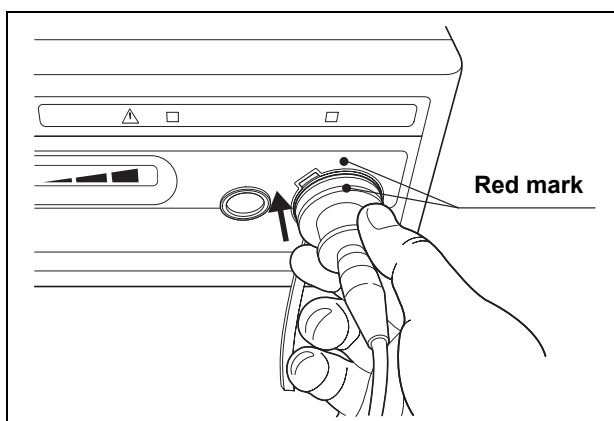

Figure 4.20
2. Align the red mark on the transducer plug with that on the hand piece connector of the generator (see Figure 4.20).